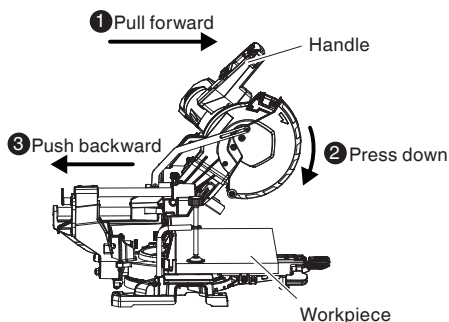

Fig. 27
Then press down on the handle and slide the saw blade backward to cut the workpiece as indicated in Fig. 27. This facilitates cutting of workpieces of up to 3-1/2" (89 mm) in height and 11-1/2" (292 mm) in width.
- ⚠ WARNING:** \* For slide cutting, follow the procedures indicated above in Fig. 27. Forward slide cutting (toward the operator) is very dangerous because the saw blade could kick upward from the workpiece. Therefore, always slide the handle away from the operator.